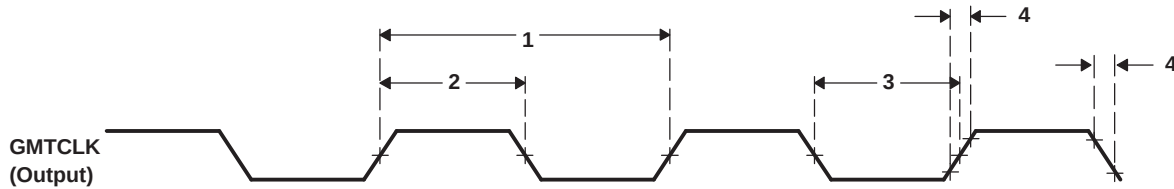

**Figure 7-53. GMTCLK Timing (EMAC – Transmit) [GMII Operation]**
**Table 7-75. Switching Characteristics Over Recommended Operating Conditions for GMTCLK - GMII Operation (see Figure 7-53)**